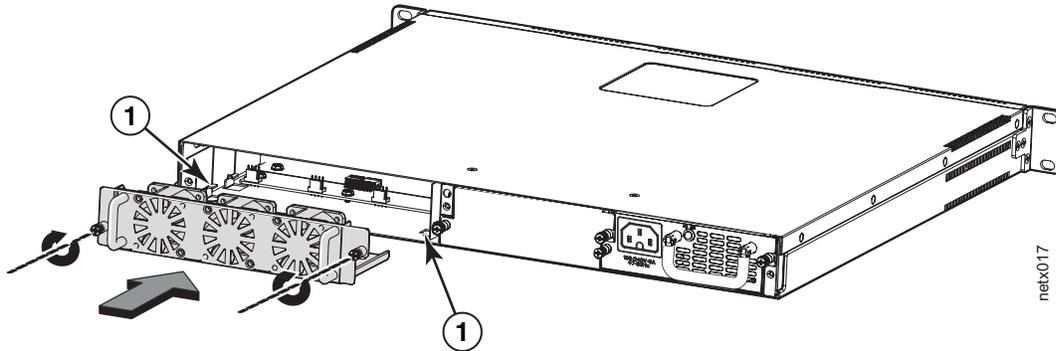

Figure 26. Inserting a replacement fan tray
3. Insert the replacement fan tray, as shown in Figure 26 on page 41, and push it all the way into the slot to connect the interface.